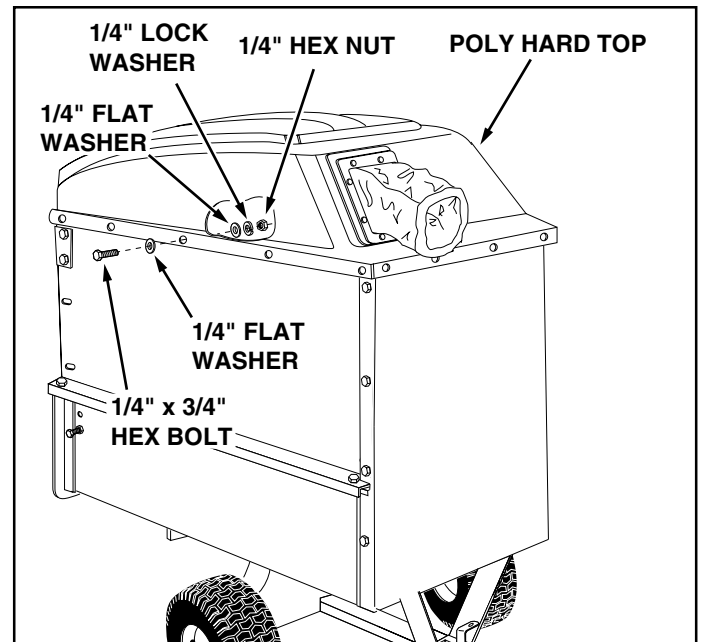

FIGURE 14
24. Install the poly hard top using fourteen 1/4" x 3/4" hex bolts and 1/4" flat washers on the outside and fourteen 1/4" flat washers, 1/4" lock washers and 1/4" hex nuts on the inside. **Tighten**. See figure 14.